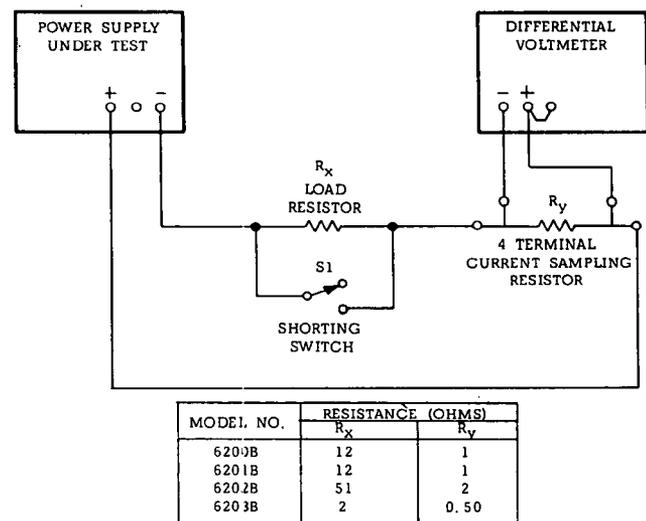

Figure 5-10. Load Regulation, Constant Current
- Connect test setup as shown in Figure 5-10.
- a. Utilize test setup shown in Figure 5-10 leaving switch S1 open throughout test.